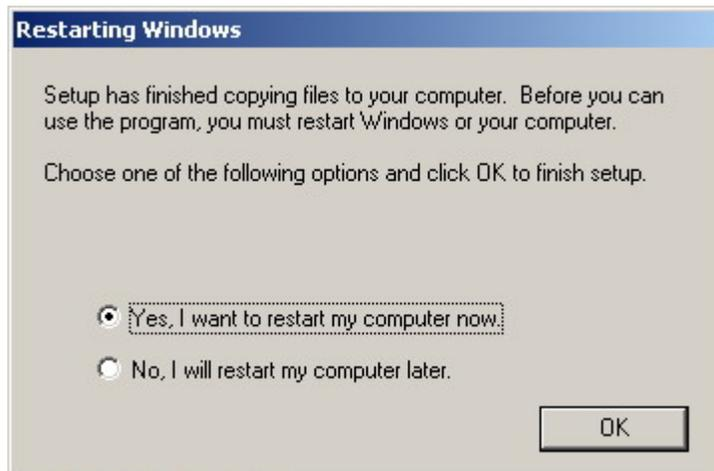

Figure 7-9: Restart the Computer
Step 10: The drivers are then installed onto the system. After the installation is complete the user is prompted to restart the computer now or later. (See **Figure 7-9**)